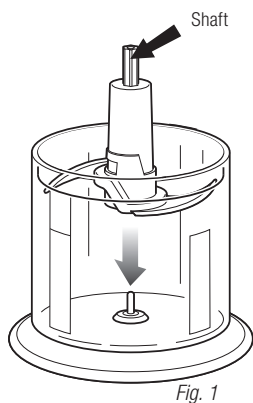

Fig. 1
- Use the Ninja 6-Blade Assembly in the 48 oz. Pitcher. (fig. 1)
- 3 Holding the Lower Chopping Blade Assembly by the shaft, place it over the spindle pin inside the Master Prep Professional Bowl. (fig. 1)